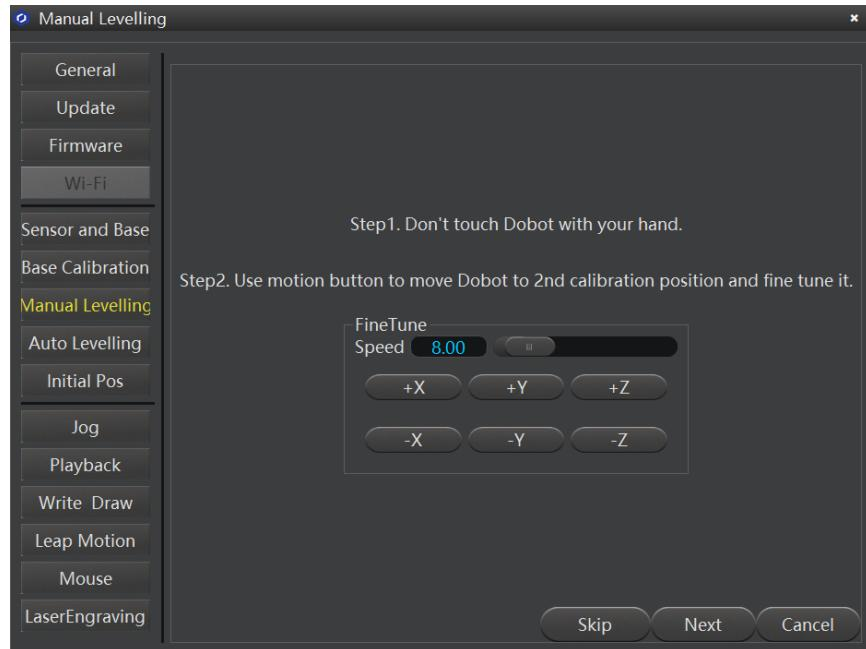

Figure 5.150 Fine-tune page
**Step 6** Click **Next** and follow the instructions on the **Manual Levelling** page (as shown in Figure 5.150) to move Dobot Magician to make the nib in the center of the second